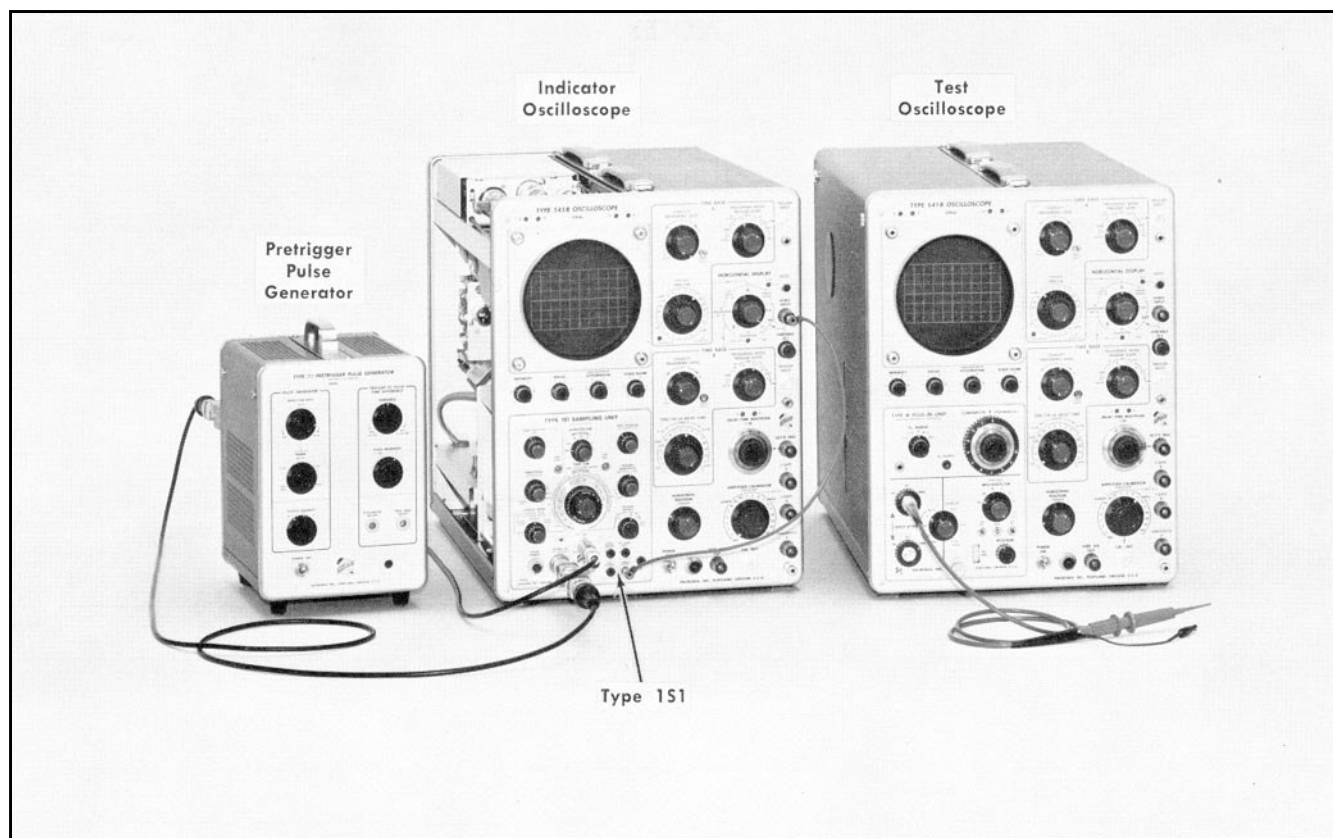

Fig. 5-47. Initial test equipment setup for steps 33 through 35.
- Test equipment setup is shown in Fig. 5-47.